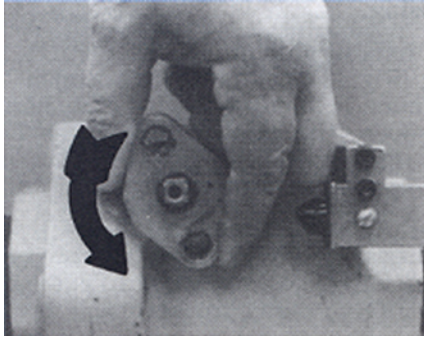

Figure 2. Turn gland retainer (step 3)
1. Remove the operating handle (key 18), fuse link assembly (key 22), and retainer (key 24) by unscrewing the bolt (key 23).
2. Take out the two gland bolts (key 33).
3. Turn the gland retainer (key 32) one-half turn counterclockwise, refer to Figure 2.
4. Remove the gland retainer from the gland (key 27).